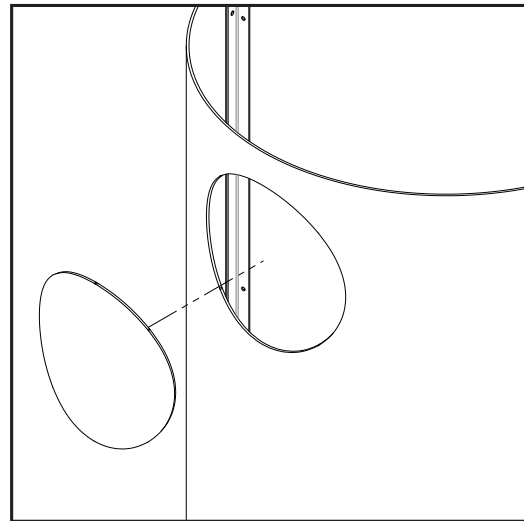

Figure 74: Rear Chassis Punchout
12. Remove the punchout from the rear chassis using a size-able hammer (see Figure 74). Place a cloth down around the perimeter to prevent damage to the chassis in case you accidentally strike the painted surface.